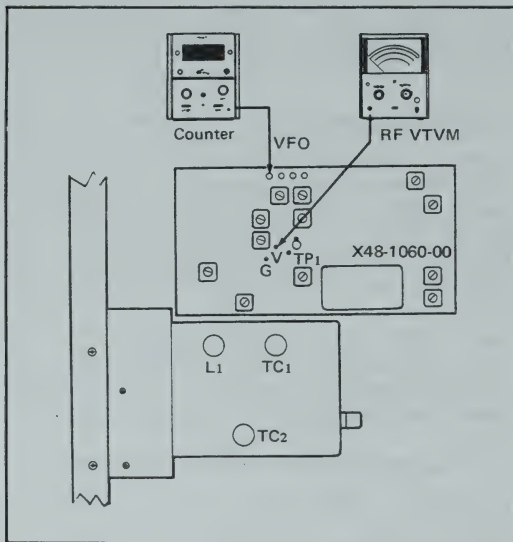

Figure 20. VFO Adjustment Diagram.
**PROCEDURE:** Set the FUNCTION switch to VFO and connect a frequency counter to terminal VFO on the IF board (X48-1060-00). With the VFO tuned to zero the frequency counter should read 5.5 MHz. If the frequency is not correct, adjust TC1 (inside the VFO section) as shown in Figure 20 for a correct frequency output. Tune the VFO to the 600 marking and check that the frequency counter shows 4.9 MHz. If the frequency is incorrect, adjust L1 in the VFO section for a proper frequency. Repeat the adjustment of TC1 and L1 alternately several times to insure proper operation.